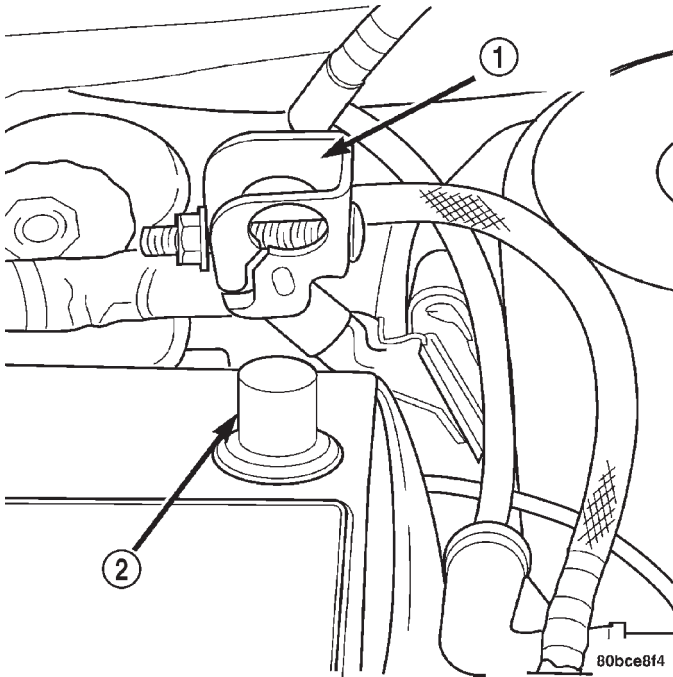

Fig. 4 Battery Negative Cable Remove/Install
(1) Disconnect and isolate the battery negative cable (Fig. 4).